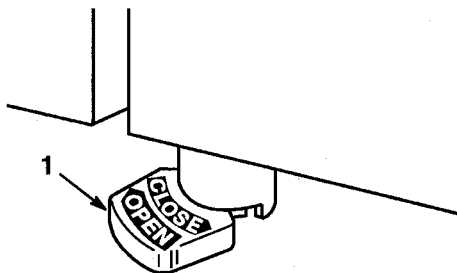

Figure 13
1. Open fuel shut off valve (Fig. 13).